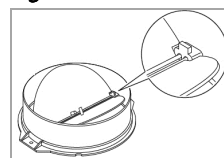

Fig. 3
- Hang up the hood. Check the secure hold and the horizontal position (*Fig. 3*).